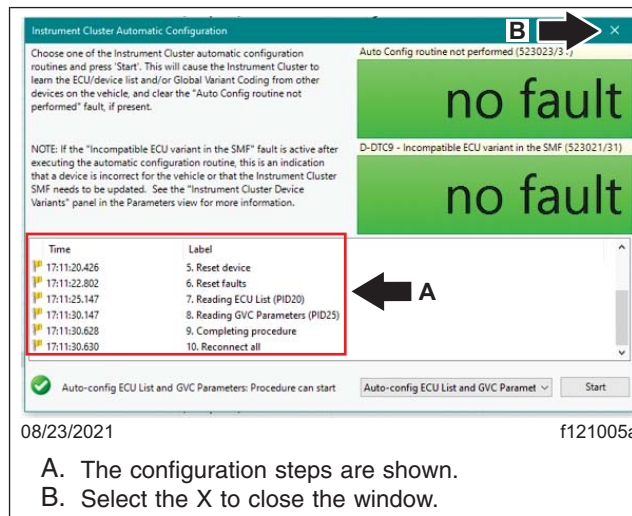

Fig. 8, Completion of Instrument Cluster Automatic Configuration
2. While the configuration is in progress, the 'Instrument Cluster Automatic Configuration' procedure window will display steps 1 through 10. Completion of step 10 indicates the configuration is successfully completed. Close the 'Instrument Cluster Automatic Configuration' window by selecting the 'X' at the upper-right corner. See Fig. 8.